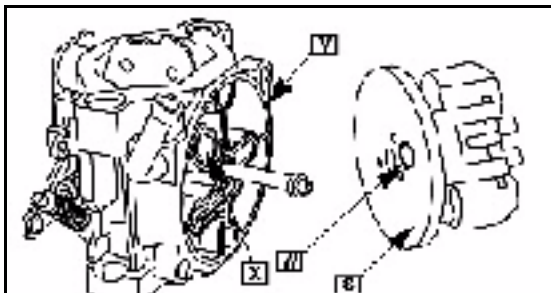

Fig. 148
NOTE: The locating tang (W) on the float assembly must be placed in the recess ([X] Fig. 148) of the carburetor base as shown.
19. Place the float assembly (S) on the carburetor base ([V] Fig. 148).